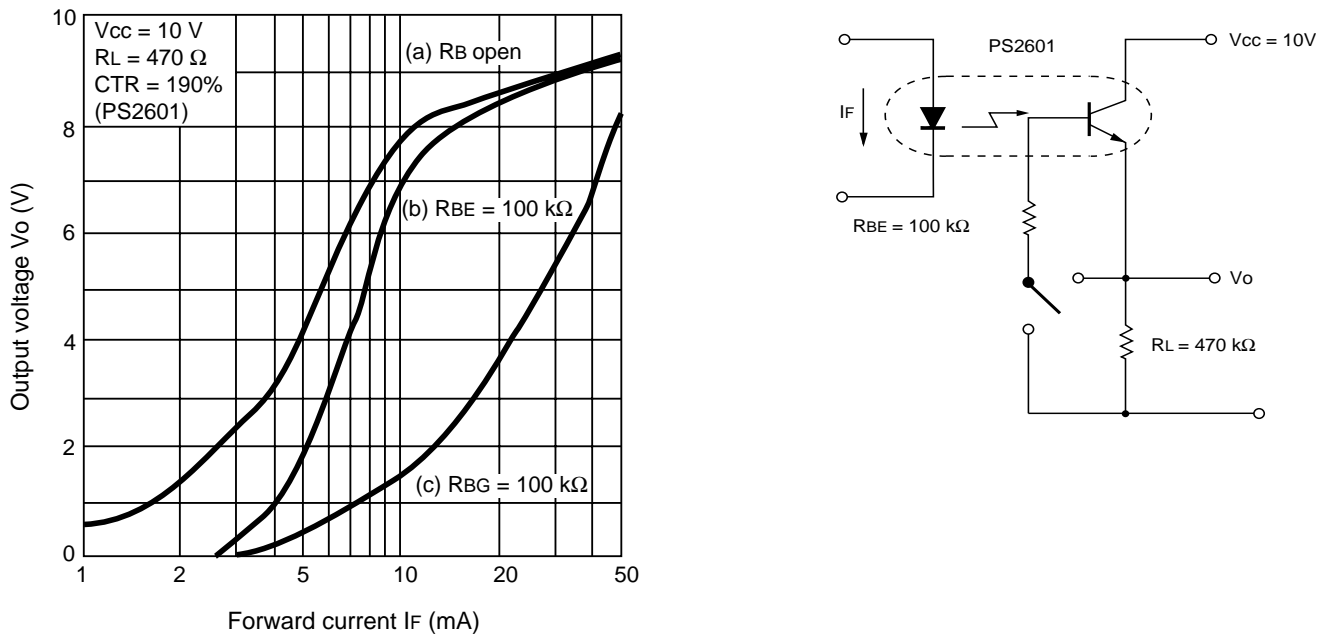

Figure 3-5. V_0 vs. I_F Characteristics
When resistor R_{BE} is serially connected to resistor R_L (see Fig. 3-4 (c)), the reduction of a CTR becomes greater even if h_{FE2} is approximately equal to h_{FE0} in expression (8) as the expression includes R_L as a parameter. Fig. 3-5 shows typical V_0 vs. I_F characteristics of the above circuits (a), (b), and (c).